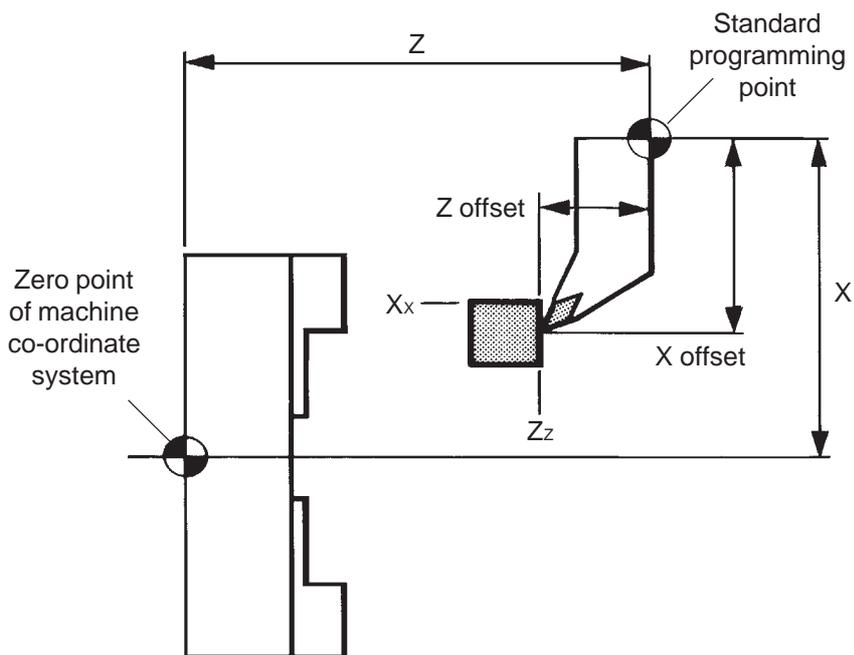

Figure 29 - Calibration step 3
Step 3 - Estimate the mechanical position of the stylus (see figure 29)